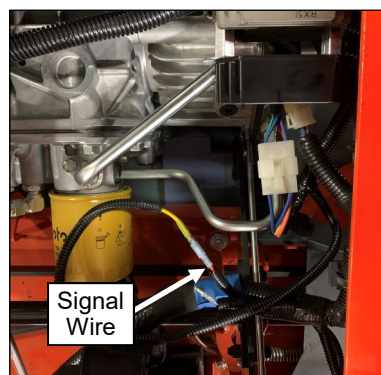

Fig. 7.10 (Locate OEM Signal Wire)
- 7.10 See fig. 7.10. Cut the blue tape on the OEM vehicle wire harness under the seat to expose a male and female bullet terminal. Connect the male bullet terminal at the end of the yellow wire on the A/C wire harness to the female bullet terminal on the OEM harness.